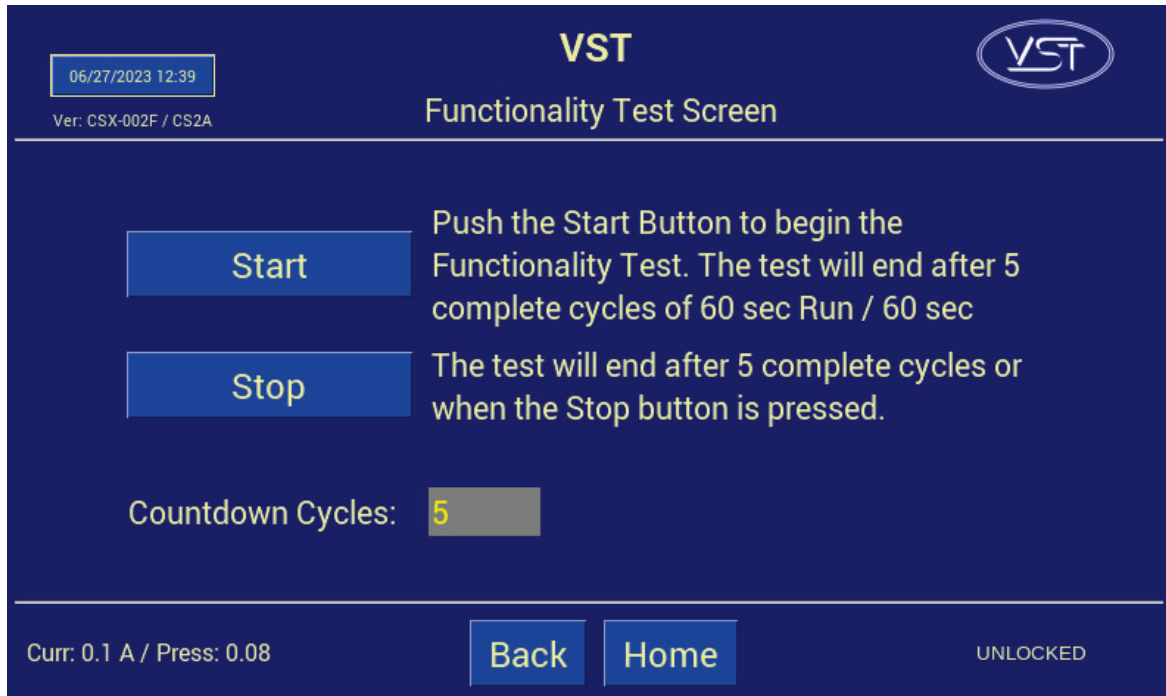

Figure 7-6: Functionality Test Screen
3. To start the Functionality Test, push the Start Button. **See Figure 7-6.**